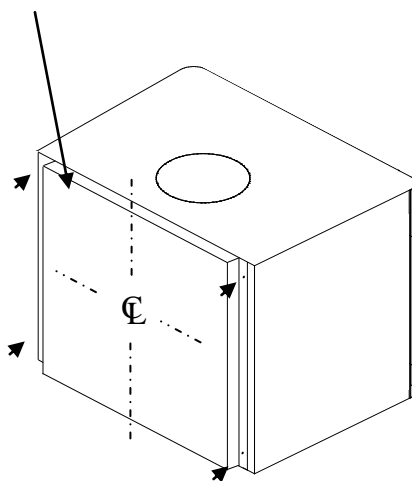

Figure 11a
1. Center rear close clearance shield with back of stove. Mark back of stove, using reference holes in rear shield. Using self-tapping screws, drill four holes in locations marked. Remove screws and attach back shield to back of stove. (See figure 11a).